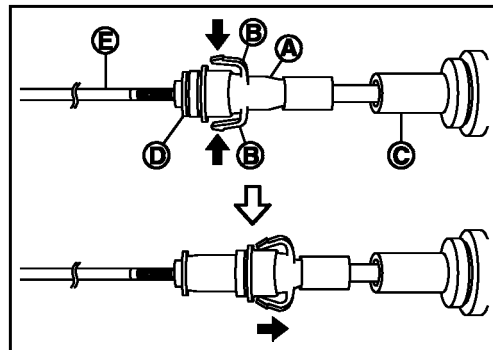
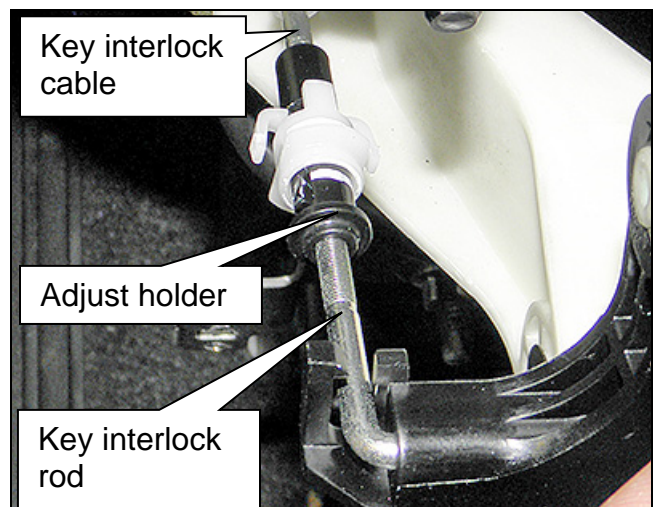

Figure 4
Figure 5
2. Unlock key interlock cable adjuster (Figure 4 and Figure 5):
- a. Press the pawls (B) of the key interlock cable slider (A),
- b. while sliding it in the direction of the casing cap (C),
- c. and then separate the adjust holder (D) and slider.
3. Adjust key interlock cable (Figure 5):